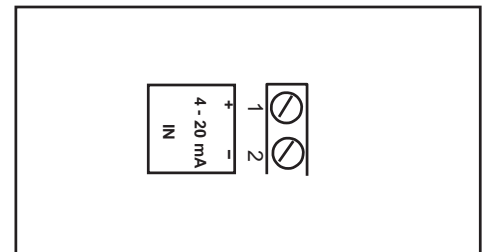

Figure 8 Connections
2. Supply air should meet IEC 770 or ISA 7.0.01 requirements. A coalescing filter should be installed in front of the supply air connection (Figure 8). Now connect the air supply to the filter, which is connected to the **Apex A9000** positioner.
NOTE: The input loop current signal to the **Apex A9000** should be in shielded cable. Shields must be tied to a ground at only one end of the cable to provide a place for environmental electrical noise to be removed from the cable. In general, shield wire should be connected at the source. (Figure 8).